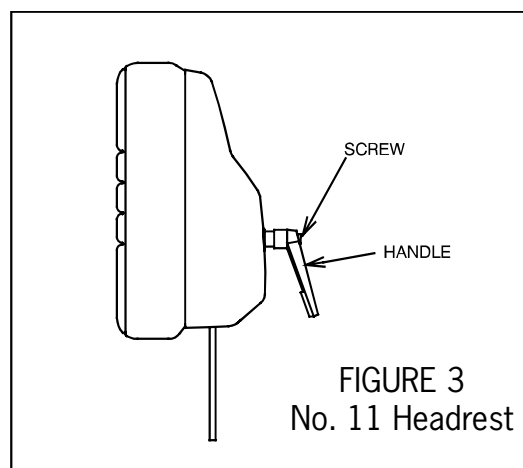

FIGURE 3
2.1.5.1 A single handle on the rear of the No. 11, 21, 31 headrests controls the locking mechanism. To unlock, grasp the handle and turn counter-clockwise. Change the tilt of the headrest until it is in the desired position. To lock, turn the handle clock-wise until snug. (See Figure 3, No. 11 Headrest shown)
2.1.6.1. The handle on the outermost knob can be adjusted to any preferred, locked position. Simply push in on the large screw while pulling out on the handle. Rotate as desired, and release. (See Figure 3, No. 11 Headrest shown)